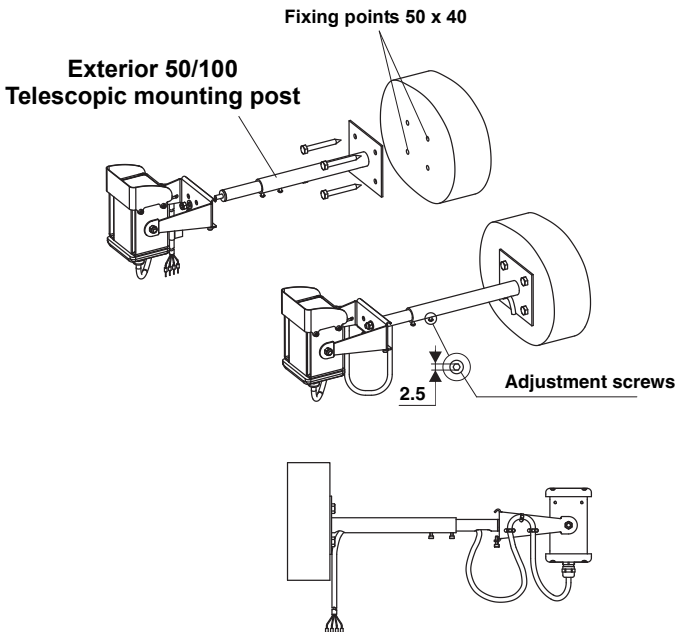

Figure 26: Fastening to a mounting post: Exterior 50
2. See Figure 26. Fasten the mounting post securely to the mounting surface using suitable steel grade 8.8 minimum fasteners. The Luminaires will exert leverage on the end of mounting posts, so check